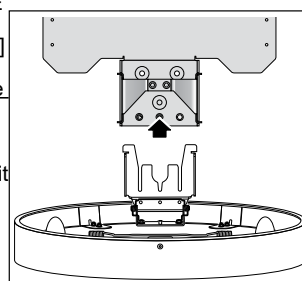

Figure 5: Canopy Removal
5. Pull the safety clamp forward and take off the mounting bracket upwards. [Figure 5]